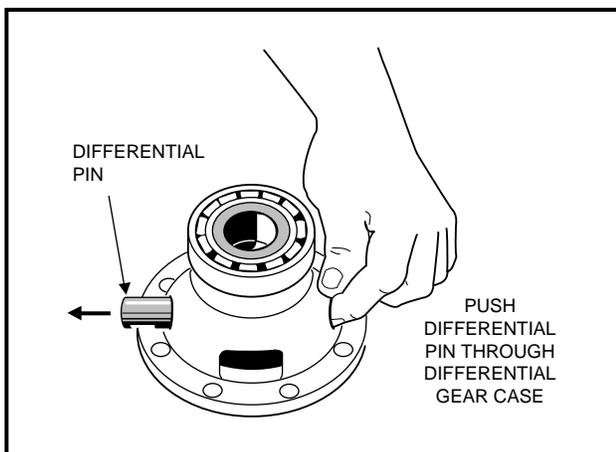

Figure 16-19 Differential Pin
- 9.5. Remove the differential pin (31) by pushing pin through differential gear case from one side (Figures 16-3 or 16-4, Pages 16-3 or 16-4). See also Figure 16-19, Page 16-10.